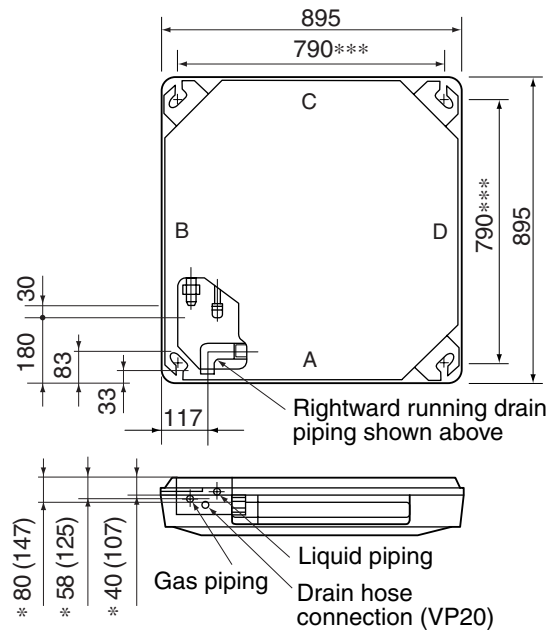

Fig. 8
1. Relation of holes for indoor unit, suspension bolt position, piping and wiring. (Refer to Fig. 8)